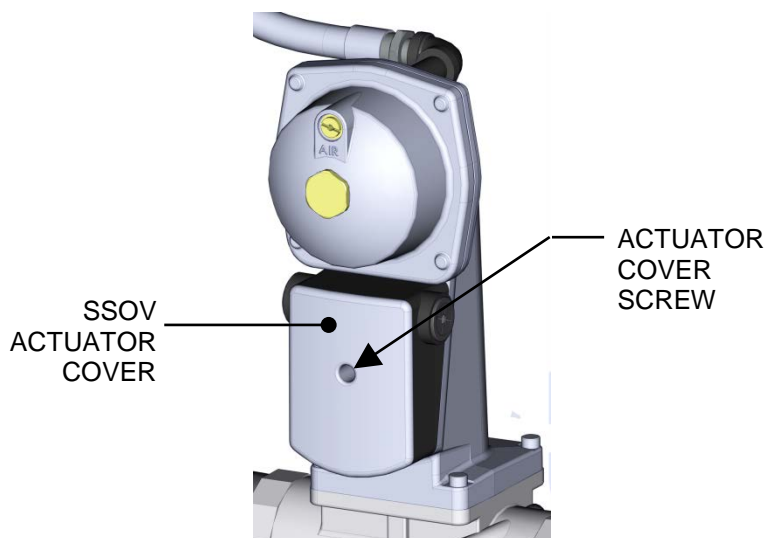

Figure 6-6: Downstream SSOV Actuator Cover Location
4. Remove the cover from the SSOV by loosening the screw, shown in Figure 6-6, below. Lift off the cover to access the terminal wiring connections.